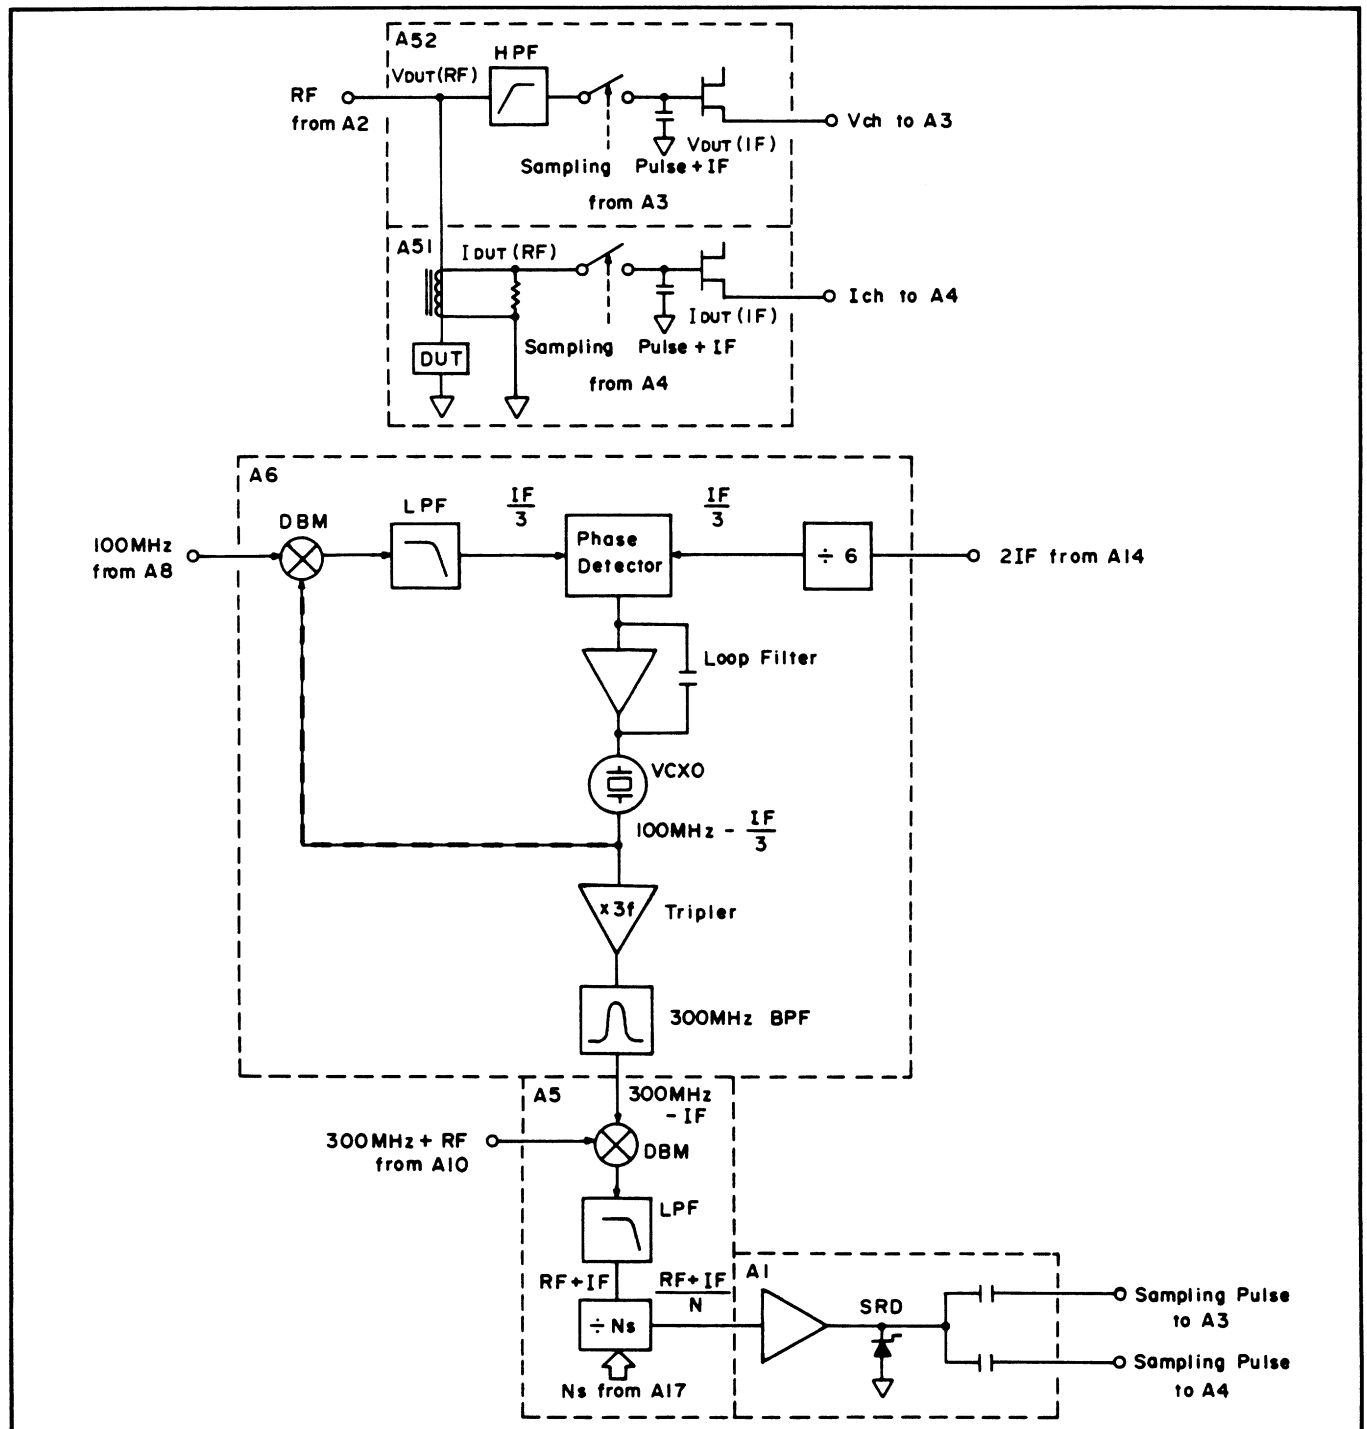

Figure 8-6. Sampling Block Diagram.
8-33. Refer to the Sampling Circuit block diagram in Figure 8-6. Two RF signals, V_{DUT} (RF) and I_{DUT} (RF), which represent the voltage across and the current through the DUT are each converted into a 9.765625kHz IF to facilitate measurement. RF-to-IF conversion is performed in the A51 Probe I-Channel and the A52 Probe I-Channel by sampling the injected RF signal at different points of the waveform. This produces two waveforms, V_{DUT} (IF) and I_{DUT} (IF), whose relative amplitudes and relative phase are identical to those of the original RF signals, but at a frequency more convenient for measurement.